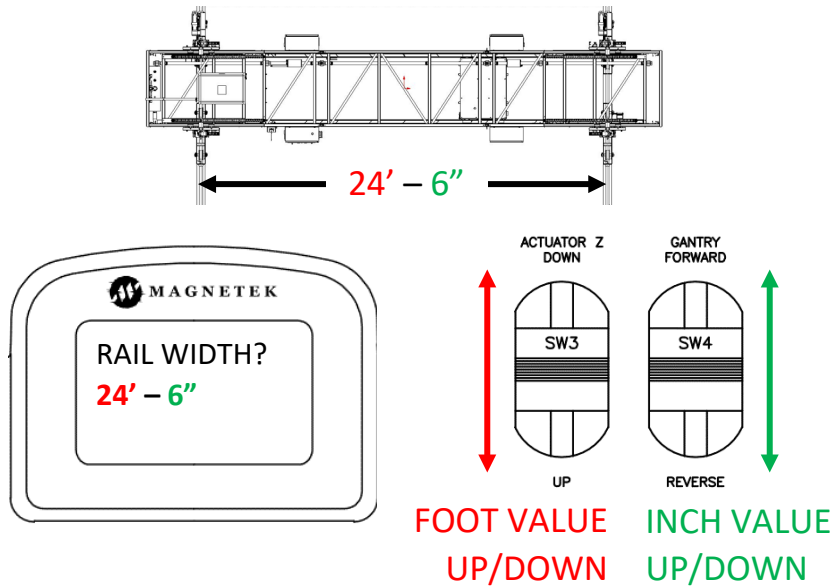

Figure 57: Setting Screed Rail Width
- 4) Turn on the Belly Box and momentarily toggle SW1 up to acknowledge signal transmission (TX) to and reception (RX) from the TyBOT unit. The Belly Box screen will display current fuel and spool capacities before prompting input of screed rail measurements.
- When the Belly Box’s readout screen prompts input of “*Rail Width?*,” set the appropriate screed rail width value using SW3 and SW4, as in Figure 57. Momentarily toggle SW1 up to acknowledge the input is correct.